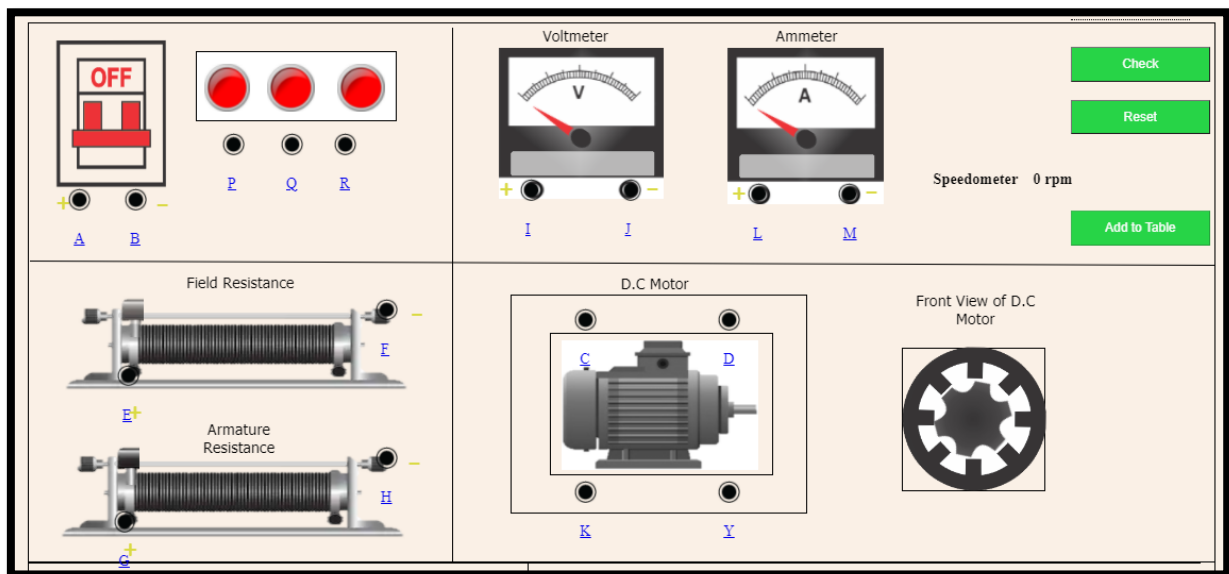

Figure 3: Draw the wiring diagram for this figure.
Step 5.1: Make all the Correct Connections. Refer to the steps below and **draw the wiring diagram in Figure 3**. Connect all dots in the following manner: